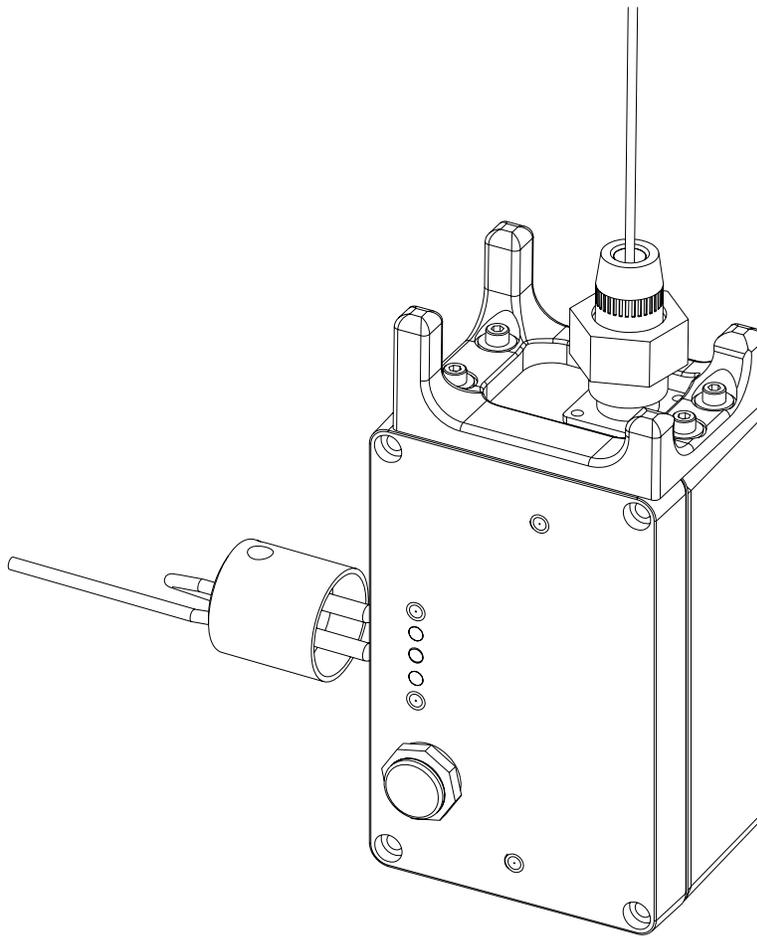

Figure 2-6 Igniter Tip Installation.
4. Install the loaded igniter tip into the igniter jacks located on the left side of the unit as shown in Figure 2-6. These connections are polarity insensitive. The unit is now ready for use.